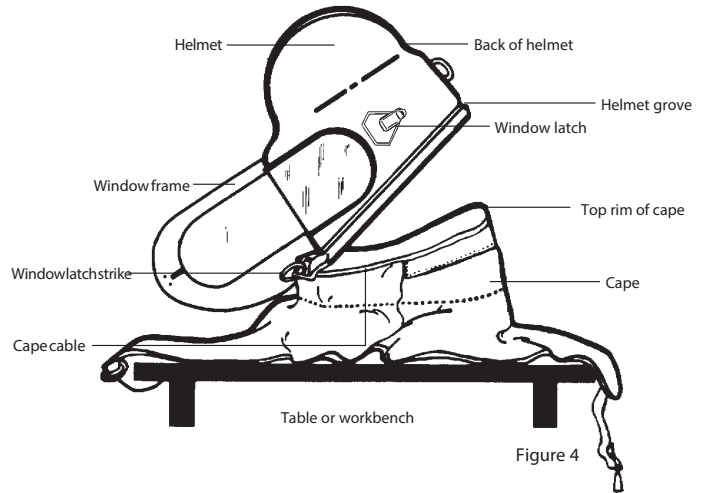

Figure 4
2. Remove cape from helmet by lifting up on clamp and disengaging cape from helmet groove (Figure 4).
1. Place cape on table or workbench. (Figure 4, page 12)
3. Line up the clampon the cape with the front center of the helmet (Figure 4, page 12).